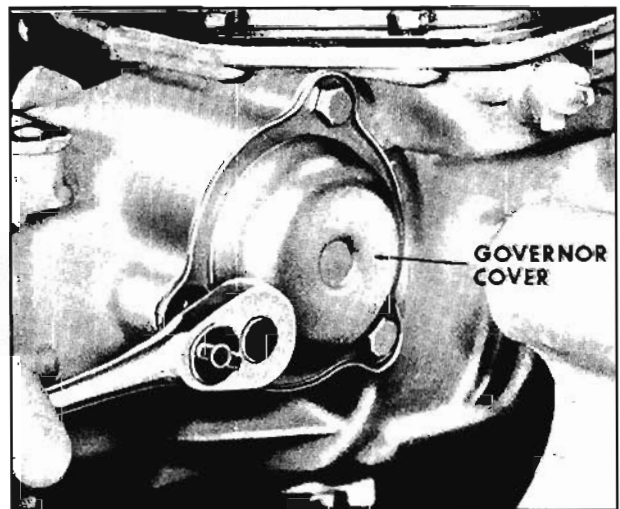

Fig. 6-476 Installing Governor Cover
2. Install governor gasket and cover to case. Torque bolts 8 to 12 ft. lbs. (Fig. 6-476)